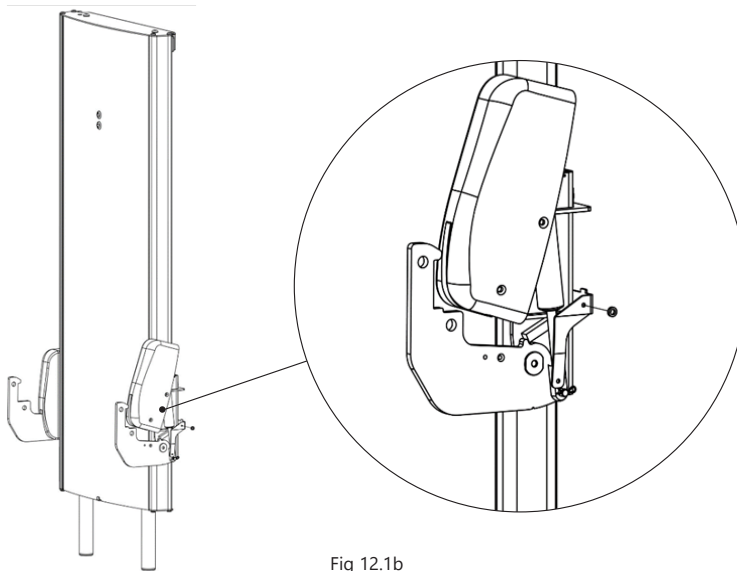

Fig 12.1b
- Each gas spring cover can then be removed by rotating up and away, as shown in Fig 12.1b. Keep in safe place as they will be refitted at the end of the installation.